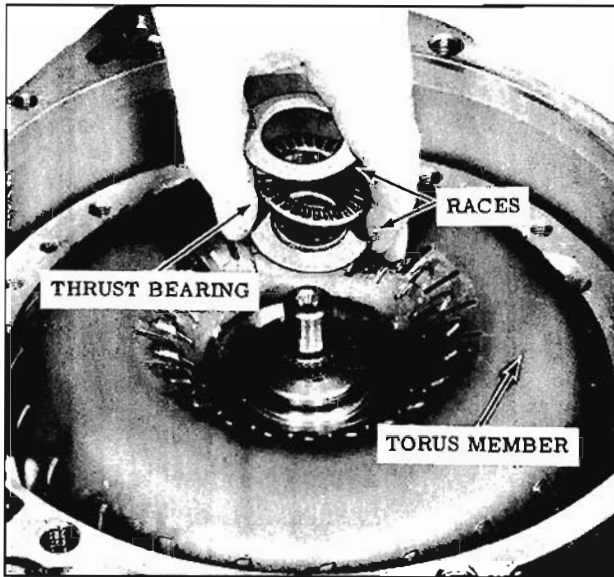

Fig. 6-34 Removing Bearing and Races
5. Remove race, thrust bearing, and race from either torus cover or torus member. Parts may have remained with either unit. (Fig. 6-34)